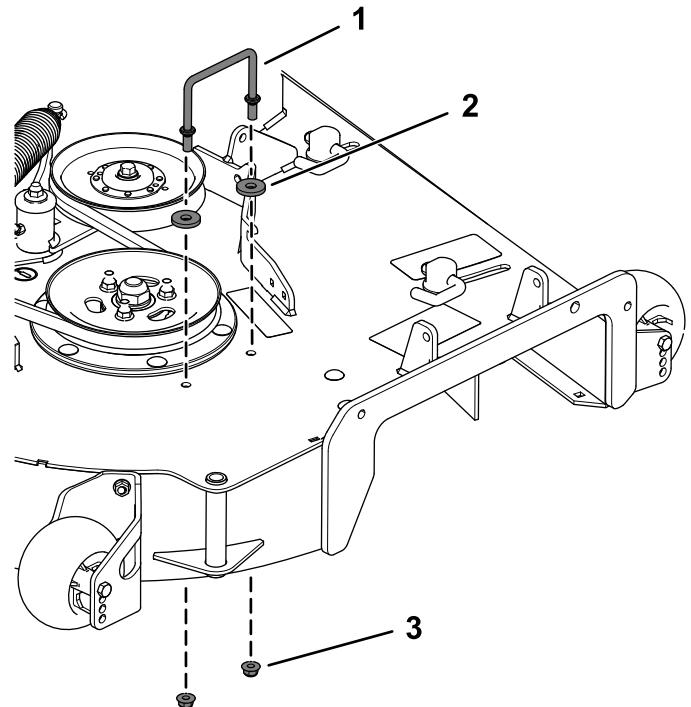

Figure 3
3. Remove the existing right belt cover bracket (Figure 3).